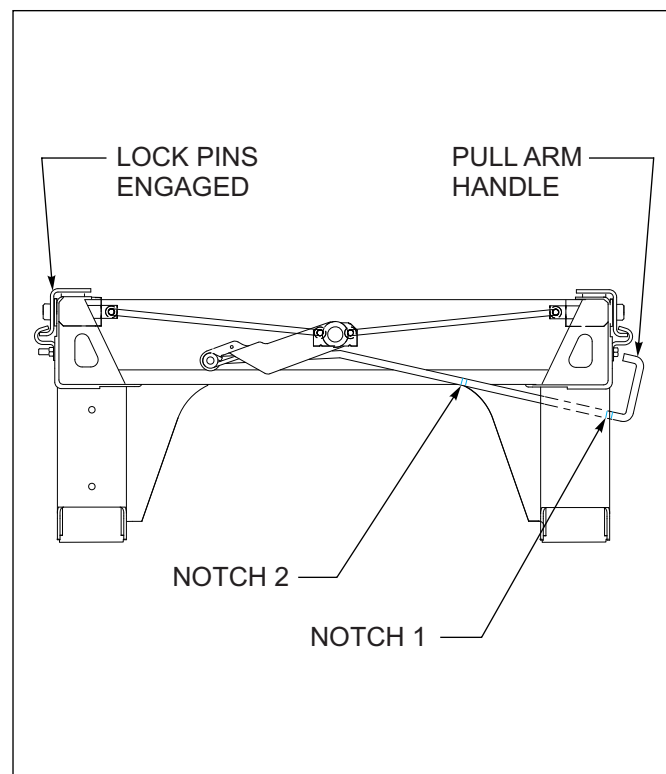
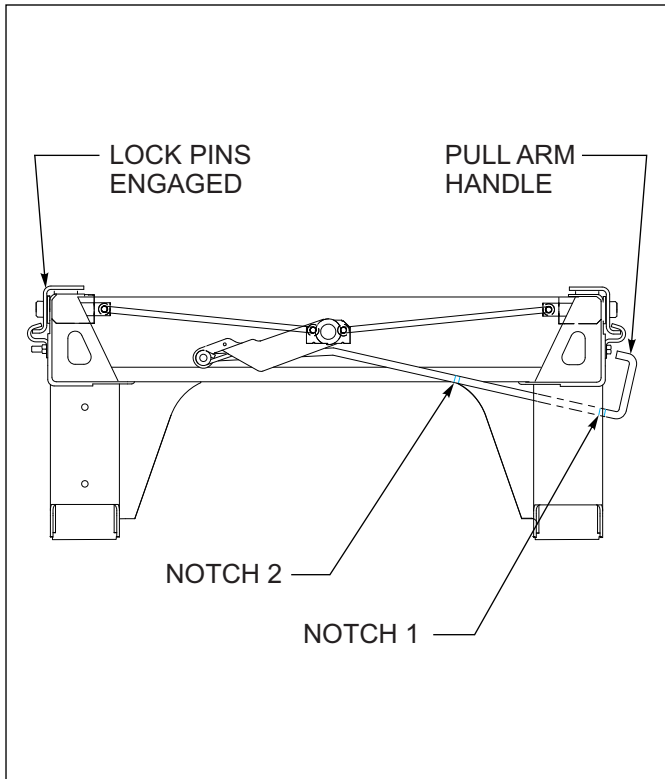

Figure 3-5: Engaged Position
Figure 3-6: Disengaged Position
3. Lift and pull the release arm handle from the engaged position (**Notch 1 - See Figure 3-5**) to the disengaged position (**Notch 2 - See Figure 3-6.**)
4. Visually check to ensure the lock pins are in the disengaged position, and that the release pull arm handle is locked (**Notch 2 - See Figure 3-6.**)
11. Lift and push the pull arm handle from the disengaged position (Notch 2 - See Figure 3-6) to the engaged position (Notch 1 - See Figure 3-5.)